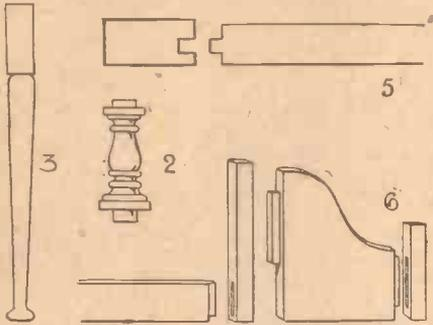

FIG. 1.
**W**RITING table such as is illustrated in Fig. 1 forms a useful piece of furniture, and is suitable for placing in any room where a table of this description is required. As far as construction is concerned there is nothing in the table which may be termed out of the ordinary run of the amateur workshop and all the joints are of a simple nature. The table-top measures 3ft. by 1ft. 6ins. and should be 2ft. 3ins. from the ground, although if the article has to be made for individual use, it is advisable to make it to a comfortable height which may vary with the person's taste.